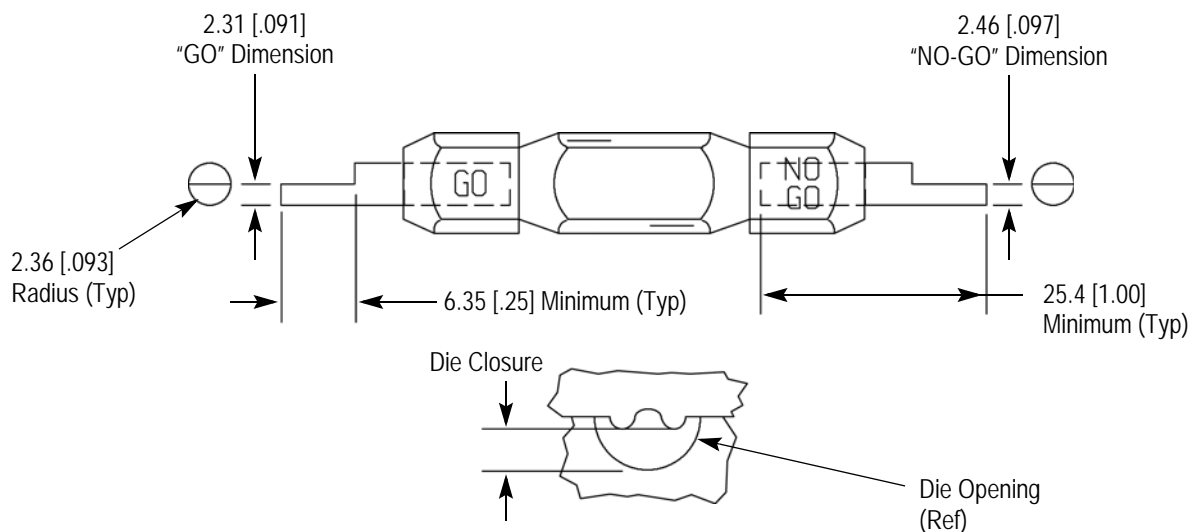

Figure 6
B. Gaging the Die Closure (Figure 6)
Figure 6 shows dimensions for manufacture of a plug gage for inspecting the closure of the wire barrel dies. If the wire barrel dies close properly, and the adjustment pin is set properly for the size wire insulation you are using, the insulation barrel dies should also close properly. So, there is no need for a plug gage to measure the insulation barrel die closure.